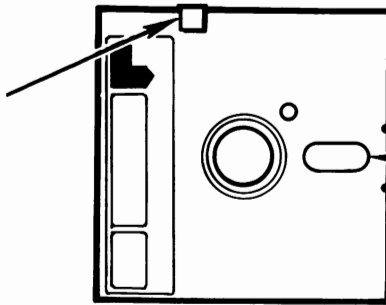

Figure 4-1. Be sure the write/protect tape is on.
3. Remove the Diagnostic Disk from its jacket and check to see that it is protected by a write-protect tape, as shown in Fig. 4-1.